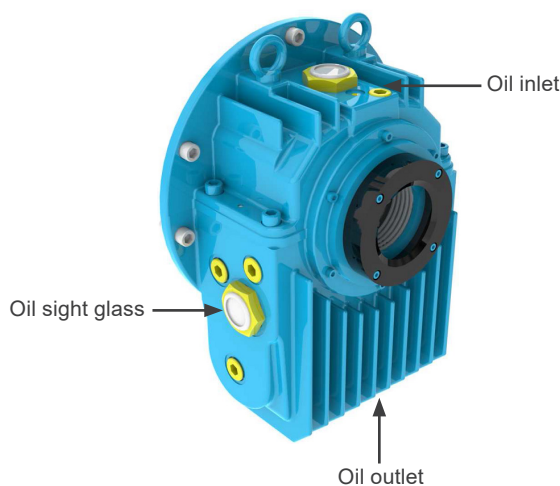

Figure 8.1: Sleeve bearing
- Drain the oil through the drain hole located at the bottom of the bearing (see Figure 8.1 on page 77).